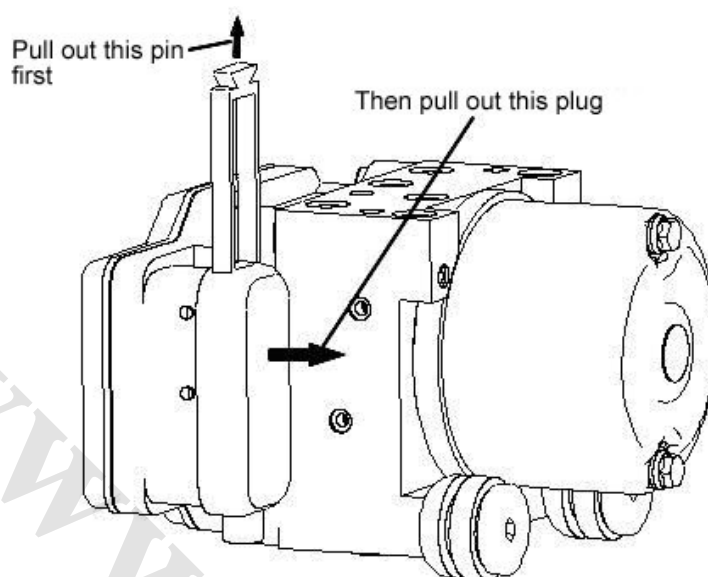

Fig. 3-11
(1) Remove connecting piece of pin 25 and wire harness of HECU in engine compartment when engine stops, as shown in Fig. 3-11.